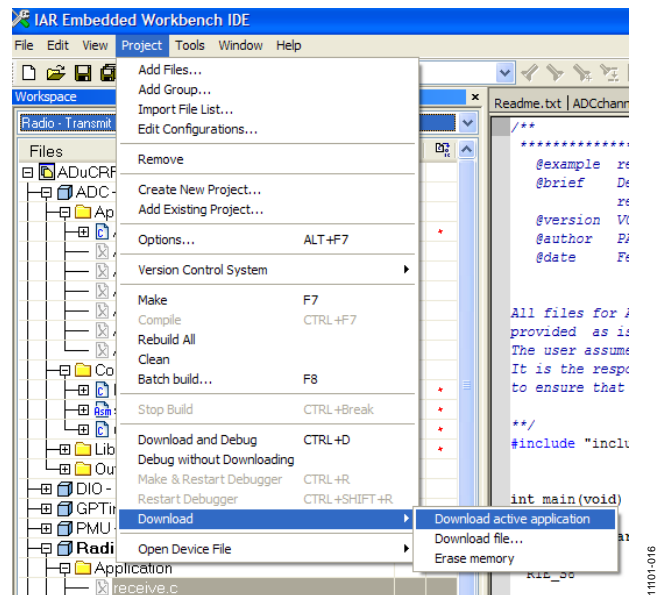
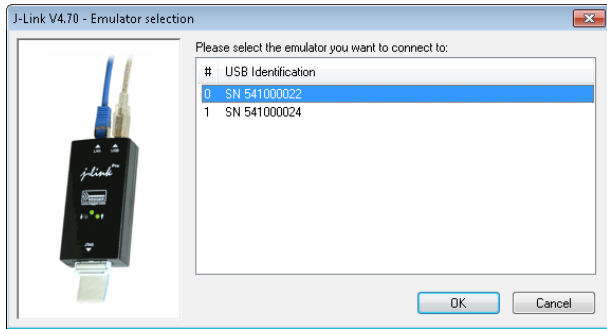
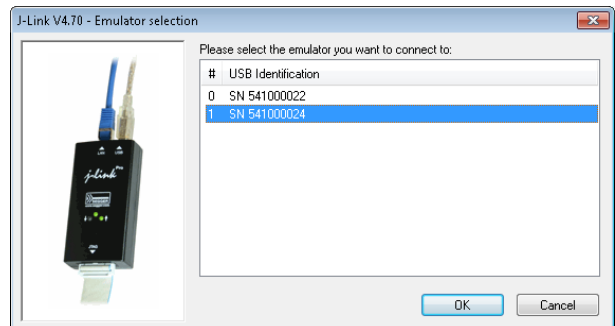

Figure 17. Download the Radio Transmit Example
Figure 18. Selecting the Transmitter Mini Board
Figure 21. Selecting the Receiver Mini Board
3. Download the project by selecting **Download active application** as shown in Figure 17. You will be prompted to select the correct emulator board as shown in Figure 18. Select the serial number of the emulator board that you designated previously as the transmitter.
3. Download the project by selecting **Download active application** as shown in Figure 17. You will be prompted to select the correct emulator board as shown in Figure 21. Select the serial number of the emulator board that you designated previously as the receiver.